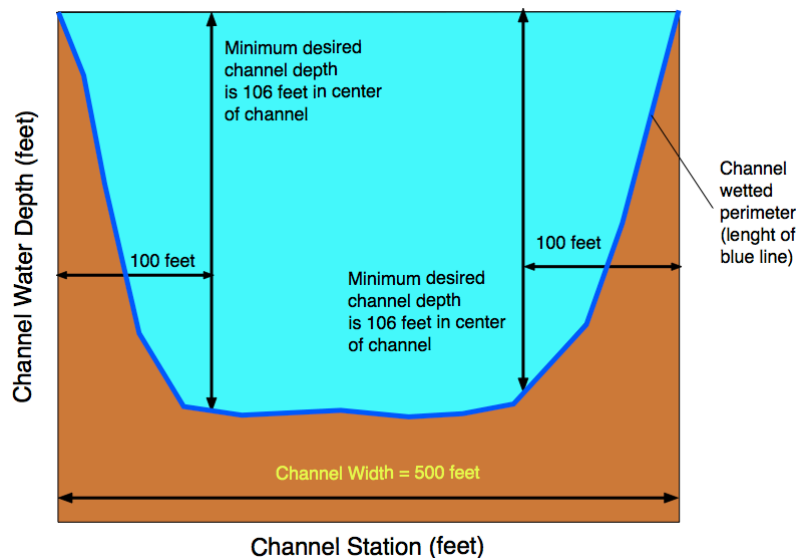

Figure 1. Water Channel Depth Profile in a Navigation Canal.
The wetted perimeter is the perimeter length of the channel in contact with the water (the dark blue line shown in Figure 1).
A section of a large natural channel is shown in Figure 1. The section depth has been derived using a bathymetric survey with a sonar and mapping GPS equipment. The file called channelDepth.m contains the channel depth data as a function of horizontal station for a 500-foot channel cross section.
- Create a Matlab script to read the channel depth file and plot the water depth level as a function of station as shown Figure 1. Label the axes and make sure you include units in your labels. **(10 Points)**
- Create a single Matlab function to calculate the wetted perimeter (W_p) and the hydraulic radius (R). The inputs to the function are the station and the water depth coordinates read in part (a), the function should produce two outputs: W_p and R . Note: It is valid to estimate the wetted perimeter as the total linear distance between the points provided in the file channelDepth.m. Hint: you can assume a line between each successive pair of points. **(10 Points)**
- c) Enhance the Matlab script created in part (a) to estimate the cross-section area (A) of the natural channel at the section shown in Figure 1. Use any integration method of your choice. **(10 Points)**
- d) The specification of the minimum depth of the channel is 106 feet deep for the central part of the channel as shown in Figure 1. The central part of the channel is 300 feet wide (as shown in Figure 1). Enhance the Matlab script created in part (b) to estimate the cross section of soil that needs to be removed from the bottom of the channel to meet the specification. **(10 Points)**